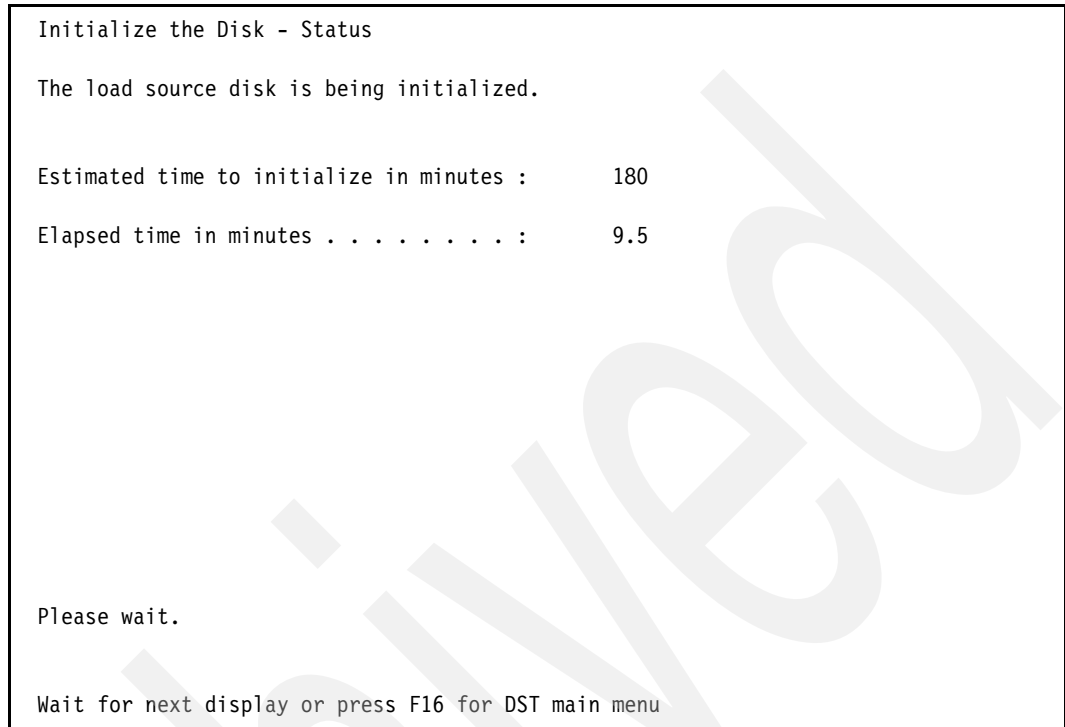

Figure 6-72 IBM i Initialize the Disk - Status panel
11. We wait until the load source initialization (formatting) is complete, as shown in Figure 6-72. The actual time that it takes for the initialization is typically much less than the estimated time.